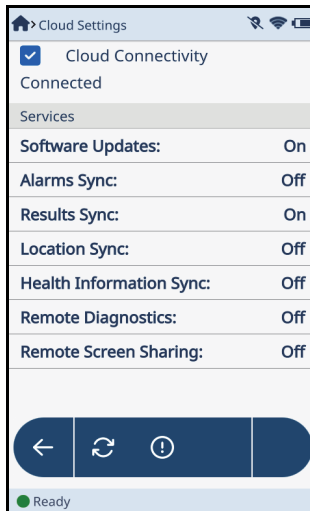

Figure 4-9 Vanta connected in Cloud Settings screen.
4. When the PIN is authenticated, the **Cloud Settings** screen indicates that the instrument is connected to the cloud (see Figure 4-9 on page 120).